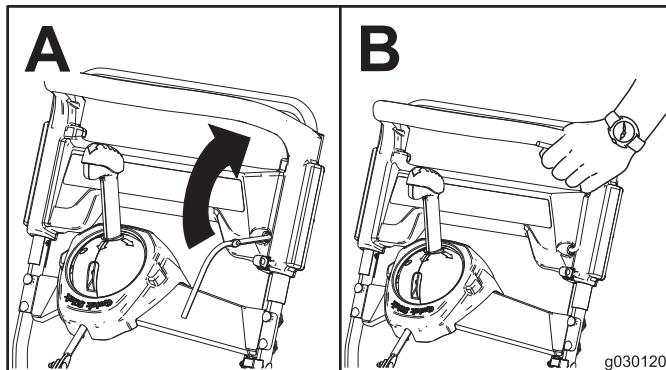

Figure 12
**Note:** Prime the engine in B of Figure 12 according to the following table: